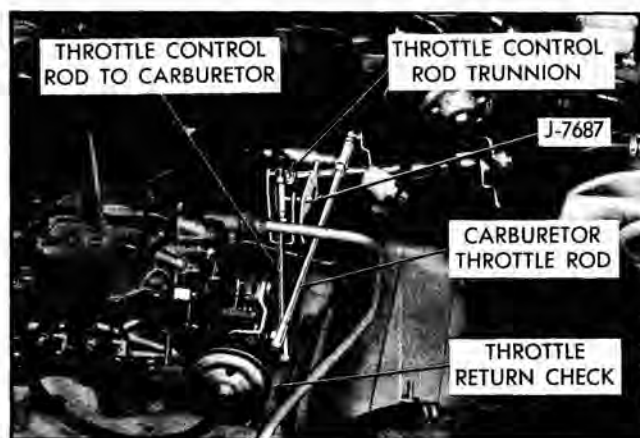

Fig. 41 Linkage Pin Installed
1. Remove air cleaner and loosen both nuts at transmission throttle control rod trunnion (Fig. 41).
3. Shut off engine and install linkage adjustment pin J-7687 through holes in throttle control lever and bracket (Fig. 41).
4. With throttle valves fully closed against stop (low step of fast idle cam) loosen lock nut and adjust length of transmission throttle control rod to carburetor (Fig. 41) so that gauge pin is free in hole. Leave pin installed and tighten lock nut securely. Recheck freeness of gauge pin in holes.
6. While holding throttle control rod to transmission in this position, tighten upper and lower trunnion lock nuts finger tight (Fig. 41). Shorten throttle control rod to transmission by backing off lower trunnion nut $2\frac{1}{2}$ turns and tighten upper nut securely. Remove gauge pin.
7. Loosen lock nut on carburetor throttle rod (Fig. 41).